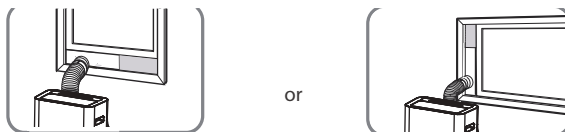

Fig. 12
5. Insert the window slider adaptor into the hole of the window slider. (Fig. 12)